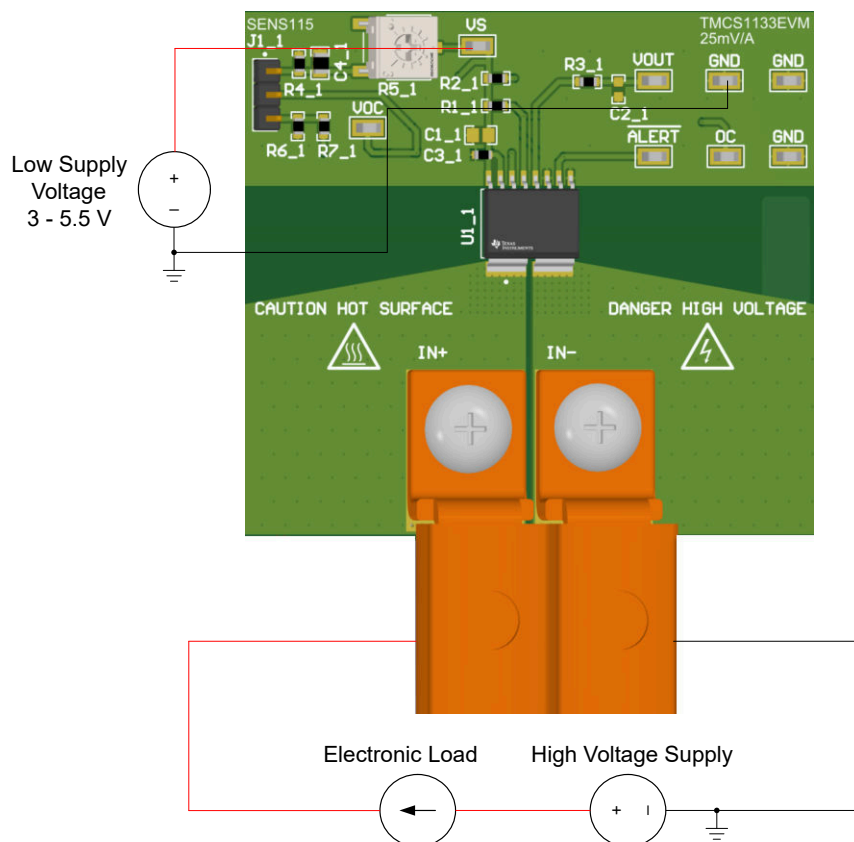

Figure 1-1. Low-Side Forward Current Setup for Reinforced Isolation
The following are instructions to set up and use the TMCS1133xEVM. Figure 1-1 shows an example of a simple, low-side setup on the A1 (25 mV/A) sensitivity variant. This device has isolation, and external supplies are distinguished by *high voltage* (HV) for load and *low voltage* (LV) for DUT supply. The HV supply can be isolated and at a different potential than the LV supply.
1. As illustrated in Figure 1-1, for a low-side measurement, connect the electronic load positive input terminal to the positive terminal of a supply capable of sourcing the desired amount of maximum load current. For a high-side measurement, connect the electronic load positive input terminal to the load sourcing terminal (IN+ or IN-) of the EVM. For high-side measurement of forward current, IN- sources to the electronic load; for reverse current, IN+ sources to the load.